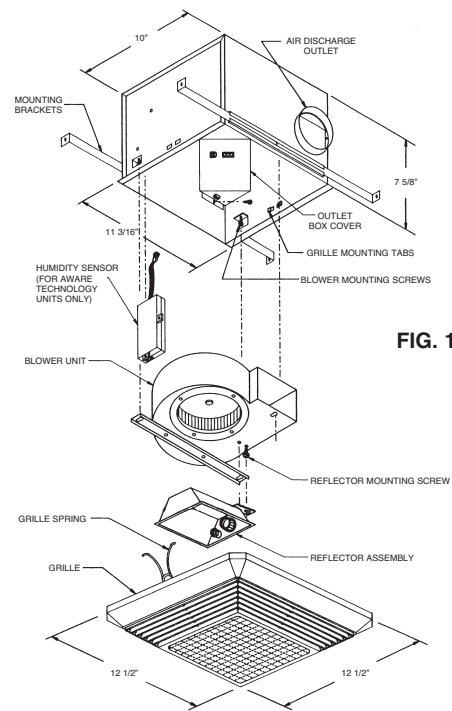

FIG. 1
1. Remove the grille assembly from the carton and set it aside until needed. Remove reflector assembly from blower unit by pulling plug from receptacle, loosen mounting screw and remove through keyhole slot. See Fig. 1.
2. Loosen three screws securing blower unit to housing and slide it toward outlet box. Carefully lift and tilt blower unit and remove from housing. Pull motor plug from receptacle. See Fig. 1.
8. Push blower motor plug into receptacle and carefully replace blower unit. Reverse procedure as noted. Tighten screws securely. See Fig. 1.
10. Squeeze spring on plastic grille and insert into tabs located in housing. See Fig. 1. Press grille firmly in place.